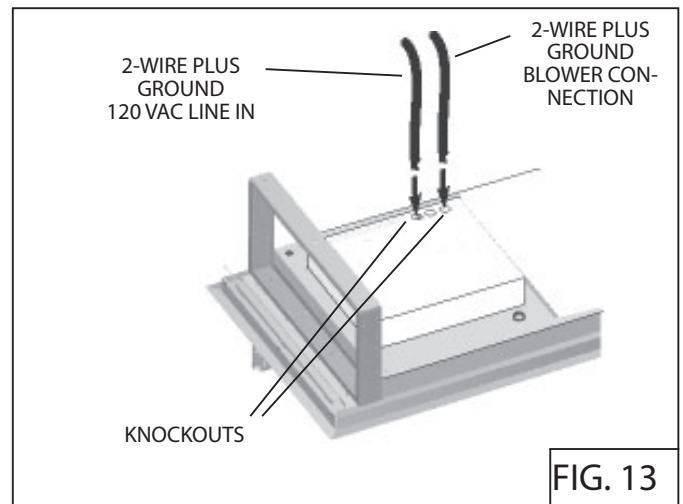

FIG. 13
1. Run 2-wire plus ground power cable to a $\frac{3}{4}$ " knockout located on the back of the hood. Fig. 13.
1. Run 2-wire plus ground, 120 VAC electrical power cable to a $\frac{3}{4}$ " knockout located on the back of the hood. Fig. 13.